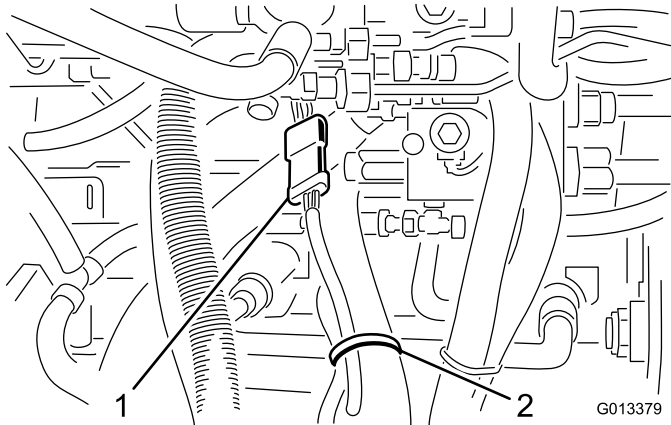

Figure 4
6. Locate and unplug the cutting-unit wiring harness from the traction unit wiring harness (Figure 4).